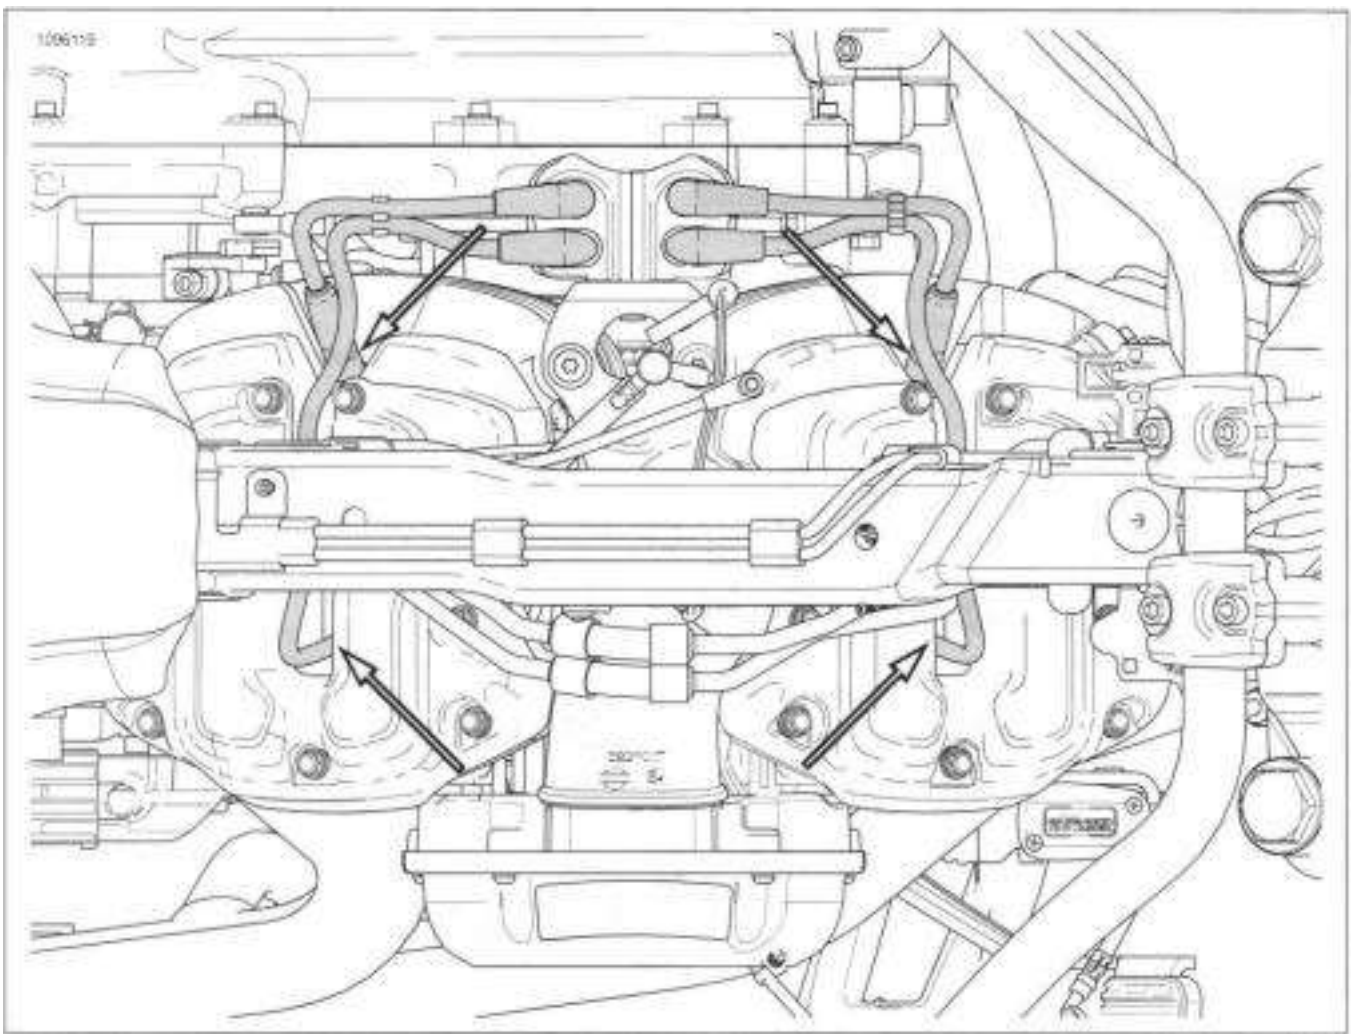

Figure 2-51. Spark Plug Location
1. See Figure 2-51 . Remove spark plug cables from spark plugs.